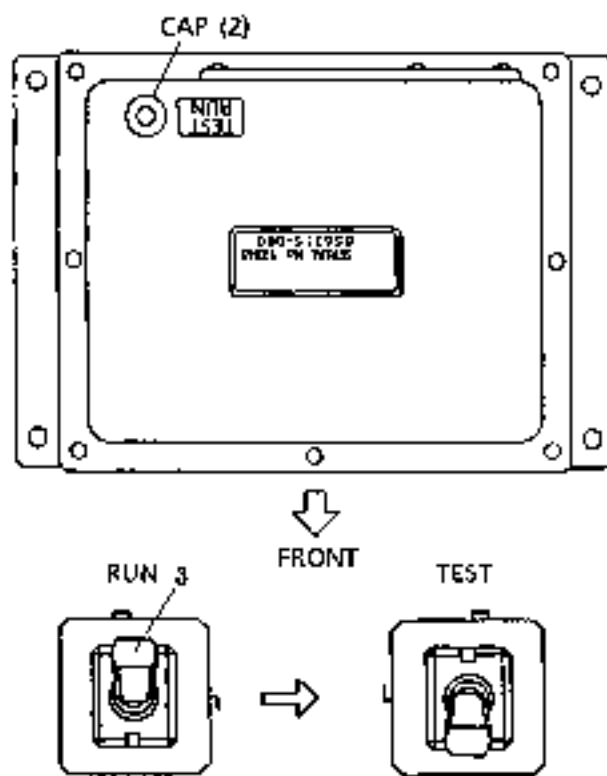

Fig. 2 KPSS controller
**⚠** The power supply turns off four seconds after the engine key is turned to "OFF". Be careful if the engine key is set to "OFF" while performing mechatronic adjustment. If the internal adjusting switch (3 of Fig. 2) is moved over when the power is on, adjustment data may be lost.
- 2) Reset the adjustment A start condition (2).
- 6) Last return the internal adjustment switch in the controller to the "RUN" side without fail and refit controller cap (2) (Fig. 2).
- 4) Set the internal adjusting switch of the KPSS controller to the test side. (Fig. 2)
A. Adjustment start conditions (2)
- 12) Lastly, pull the internal adjusting switch in the controller to this side (RUN) and refit the controller cap (2) back in place with the key in the off position. (Fig. 2)